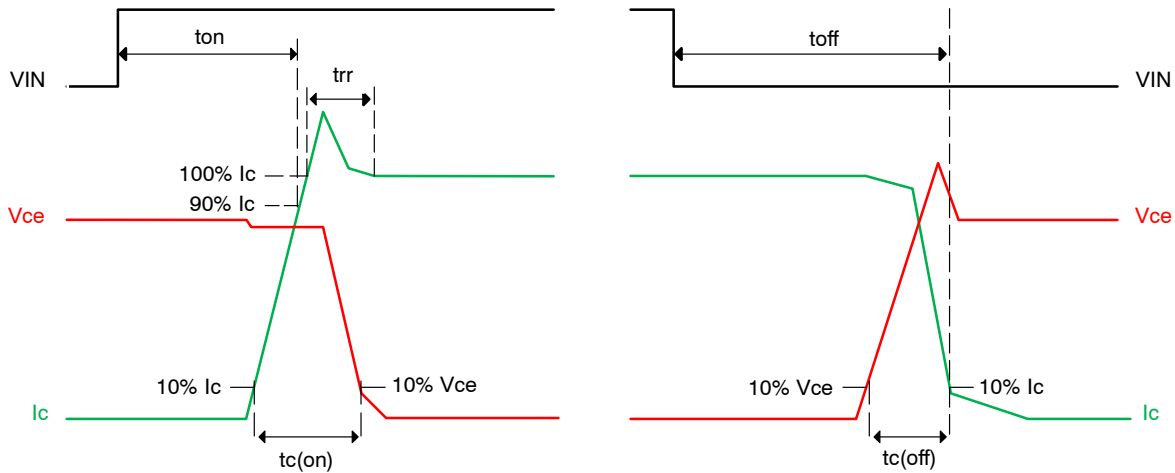

Figure 3. Switching Time Definitions
| HS | ton | VPN = 600 V, VDD = 15 V, Ic = 10 A, Tj = 25 °C, Inductive Load Switching See Figures 3, 23, 24 (Note 4) | 1.00 | 1.30 | 1.90 | μs |
- ton and toff include the propagation delay of the internal drive IC. tc(on) and tc(off) are the switching times of IGBT under the given gate-driving condition internally. For the detailed information, please see Figure 3.